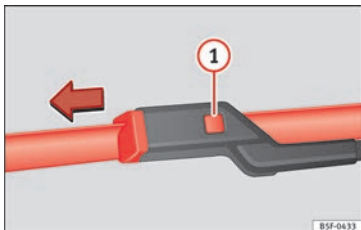

Fig. 82 Changing the windscreen wiper blades
- Press and hold release button »» Fig. 82 ❶ and pull gently on the wiper blade in the direction of the arrow.